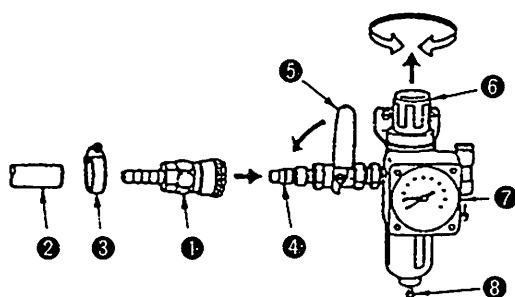
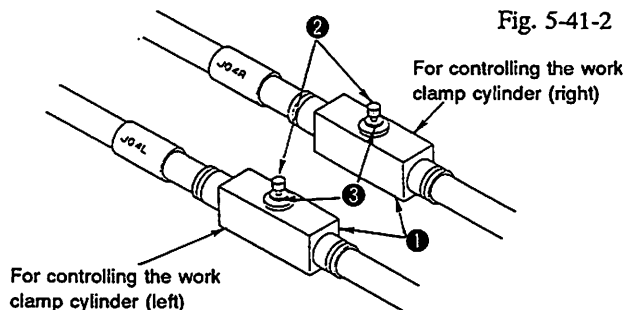
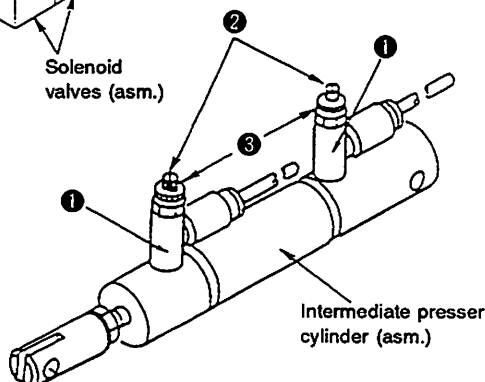

Fig. 5-41-1
Fig. 5-41-3
Fig. 5-41-4
- 1) Connect quick-coupling joint ①, and open air cock ⑤. At this time, air pressure gauge ⑦ should indicate 5 to 5.5 kgf/cm² (0.5 to 0.55 MPa). (Fig. 5041-1)
- 2) If the value indicated on air pressure gauge ⑦ is lower than 4 kgf/cm² (0.4 MPa), error indication **A** will be given, and the machine will stop. (Fig. 5-41-1)
- 4) The needle knob of speed controller (for controlling the work clamp cylinder) is fixed by the nut at the position where the knob is turned in the reverse direction by one revolution after it has been securely tightened. (Fig. 5-41-3)
- 5) The needle knob of speed controller (for controlling the intermediate presser cylinder) is fixed by the nut at the position where the knob is turned in the reverse direction by five revolutions after it has been securely tightened. (Fig. 5-41-4)
<ol style="list-style-type: none"> 1) Connect the air supply hose to quick-coupling joint (female) ❶ and fix it with cable clip ❸. 2) Connect female side ❶ of the quick-coupling joint to male side ❷ of the joint. 3) Open air cock ❹, pull it up and then adjust air adjusting knob ❺ by turning it so that the air pressure gauge ❻ indicates 5 to 5.5 kgf/cm² (0.5 to 0.55 MPa). Then press the knob to maintain the pressure value. 4) If the compressed air pressure is too low, the machine will stop running while indicating error [A] on the panel. <ul style="list-style-type: none"> * The air pressure will be 0 kgf/cm² if you close air cock ❹ and push the button ❽. <p>[Caution] After making the adjustment, set air pressure gauge ❺ so that it indicates 5 to 5.5 kgf/cm² (0.5 to 0.55 MPa), and make sure that error indication [A] goes out.</p> <ol style="list-style-type: none"> 5) Under the sewing mode, remove the air hose by pressing section ❷ of pressure reducing valve ❶ that is fixed on the solenoid valve asm. Connect a commercially available pressure gauge. (Fig. 5-41-2) Treadle the feeding frame switch five times or more. Then turn needle knob ❷ of pressure reducing valve ❶, and adjust the pressure gauge connected so that it indicates 1 to 1.5 kgf/cm² (0.1 to 0.15 MPa). Then fix the knob at that position using nut ❸, and connect the air hose which has been removed. (Fig. 5-41-2) 6) Adjust needle knob ❷ of speed controller ❶, referring to the "STANDARD ADJUSTMENTS (41)-4)." Then fix the knob using nut ❸. (Fig. 5-41-3) 7) Remove the face plate. Adjust needle knob ❷ of speed controller ❶, referring to the "STANDARD ADJUSTMENTS (41)-4)." Then fix the knob using nut ❸. (Fig. 5-41-4) 	<ol style="list-style-type: none"> 1) The work clamp mechanism and/or intermediate presser mechanism may malfunction. The machine will stop running while showing error indication [A]. 2) The machine may fail to detect a drop in the pressure of the air source. The machine will stop running while showing error indication [A] if the pressure gauge indicates normal operating air pressure (5 to 5.5 kgf/cm² (0.5 to 0.55 MPa)). 3) The appropriate pressing pressure of the work clamp will not be obtained. 4) The feeding frame may fail to go up or come down at the appropriate speed. It may move at an excessive speed or at an insufficient speed. 5) The intermediate presser may fail to move smoothly. A heavy metal noise may be produced while the intermediate presser is actuated. <p>[Caution] It is unnecessary to carry out Steps 2) through to 5) in the "STANDARD ADJUSTMENTS (41)" as long as the machine is engaged in normal sewing. Note that the needle knobs and nuts described in steps 3) through 4) are coated with oil resistant white paint to show that they have already been properly adjusted.</p> <ul style="list-style-type: none"> * When setting the air pressure gauge to 0 kgf/cm², be sure to close air cock ❹, and press button ❽. (See Fig. 5-41-1)